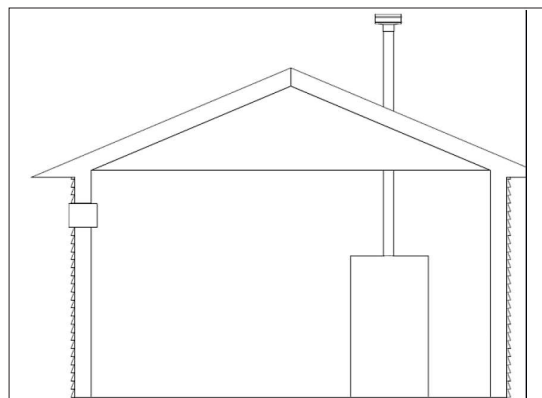

Figure 29 - Combustion Air from Outdoors - Single Opening
4. If a single combustion air opening is provided to bring combustion air in directly from the outdoors, the opening must be sized based on a minimum free area of one square inch per 3000 BTU/hr. This opening must be located within 12" of the top of the enclosure. See Figure 29.